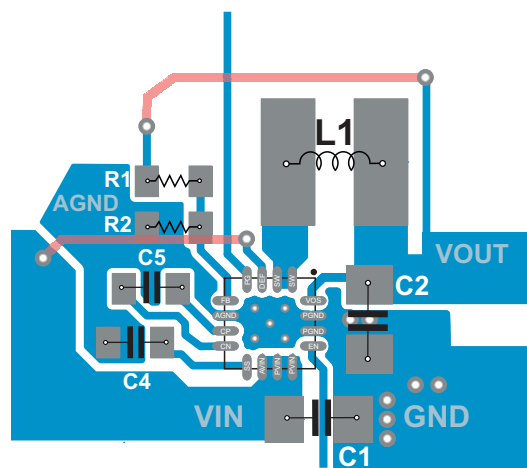

Figure 21. Recommended Layout
- See Figure 21 and the evaluation module User Guide (SLVU670) for an example of component placement, routing and thermal design.